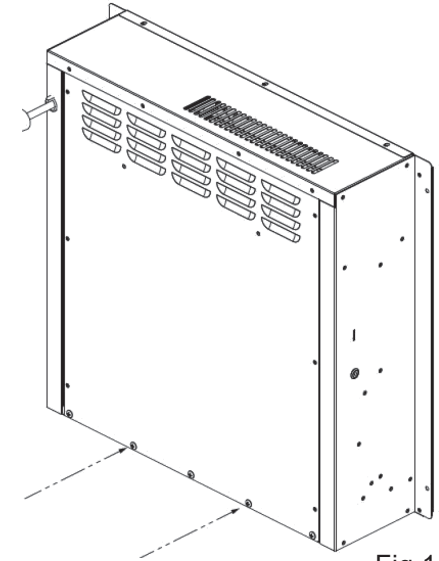

Fig.1
Step 1. Remove the back panel's two silver screws out of appliance, please see Fig.1